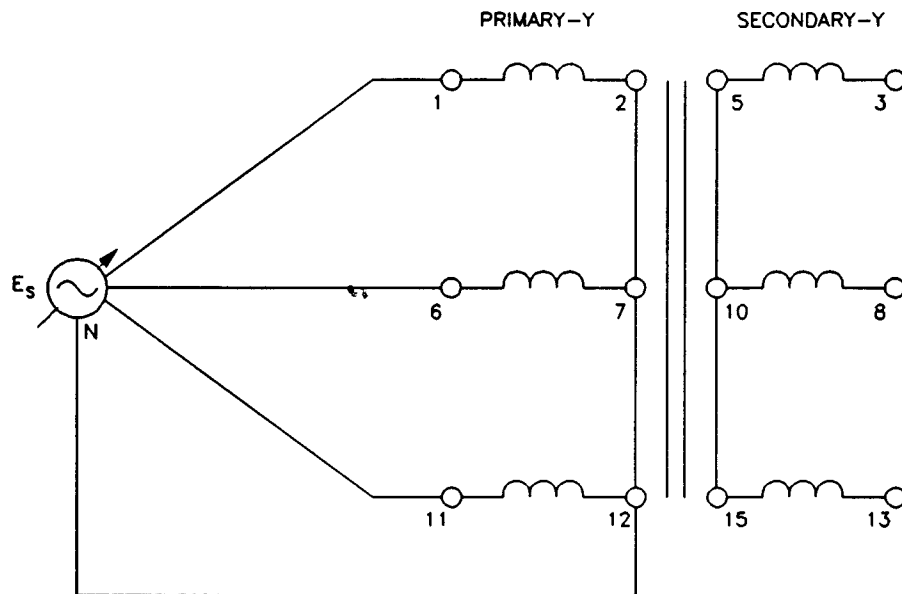

Figure 9-7. Three-Phase Transformer Connected in Wye-Wye.
13. Turn off the power and connect the Three-Phase Transformer module in the wye-wye configuration shown in Figure 9-7.